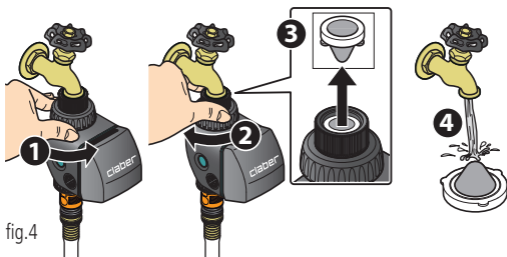

fig.4
- Periodically, check and clean the filter under running water (see fig.4).